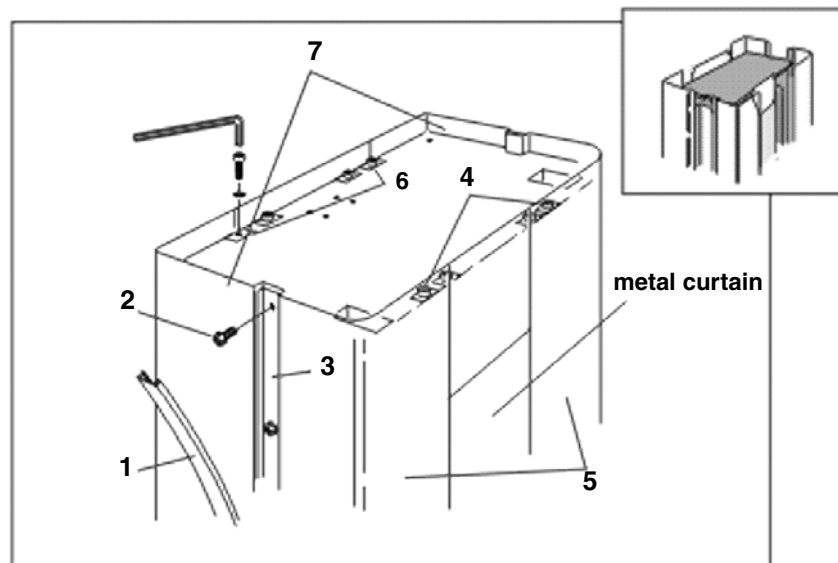

Fig. 2
**The metal curtain (see Fig. 2) is very sharp. After removing the stand front covers (5), mount protective strips onto the edges of the metal curtain. The strips are located inside the stand.**